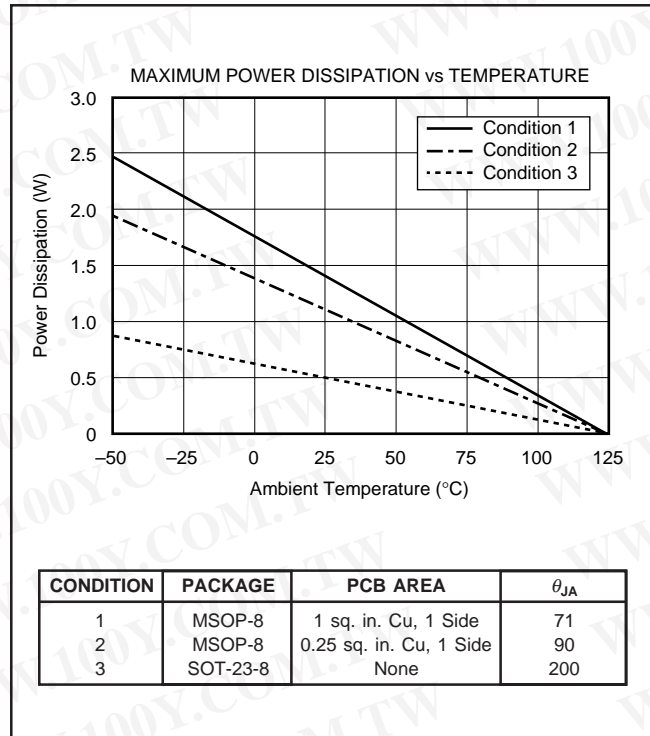
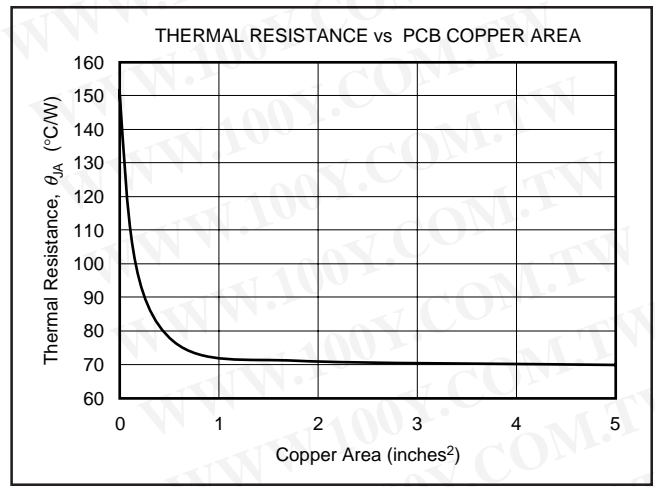

FIGURE 6. Maximum Power Dissipation versus Ambient Temperature for the Various Packages and PCB Heat Sink Configurations.
FIGURE 7. Thermal Resistance versus PCB Area for the MSOP-8.
- NOTES: (1) The REG113 does not require a minimum output capacitor for stability. However, transient response can be improved with proper capacitor selection.
(2) Dropout voltage is defined as the input voltage minus the output voltage that produces a 2% change in the output voltage from the value at $V_{IN} = V_{OUT} + 1\text{V}$ at fixed load.
(3) Current limit is the output current that produces a 10% change in output voltage from $V_{IN} = V_{OUT} + 1\text{V}$ and $I_{OUT} = 5\text{mA}$.
(4) For $V_{ENABLE} > 6.5\text{V}$, see typical characteristic I_{ENABLE} vs V_{ENABLE} .
(5) The REG113 no longer regulates when $V_{IN} < V_{OUT} + V_{DROD(MAX)}$. In dropout, the impedance from V_{IN} to V_{OUT} is typically less than 1Ω at $T_J = +25^{\circ}\text{C}$.
(6) See Figure 7.
The REG113 is available in two different package configurations. The ability to remove heat from the die is different for each package type and, therefore, presents different considerations in the printed circuit board (PCB) layout. On the MSOP-8 package, leads 5 through 8 are fused to the lead frame and may be used to improve the thermal performance of the package. The PCB area around the device that is free of other components moves the heat from the device to the ambient air. Although it is difficult or impossible to quantify all of the variables in a thermal design of this type, performance data for several simplified configurations are shown in Figure 6. In all cases the PCB copper area is bare copper, free of solder resist mask, and not solder plated. All examples are for 1-ounce copper and in the case of the MSOP-8, the copper area is connected to fused leads 5 to 8. See Figure 7 for thermal resistance for varying areas of copper. Using heavier copper can increase the effectiveness in removing the heat from the device. In those examples where there is copper on both sides of the PCB, no connection has been provided between the two sides. The addition of plated through holes will improve the heat sink effectiveness.